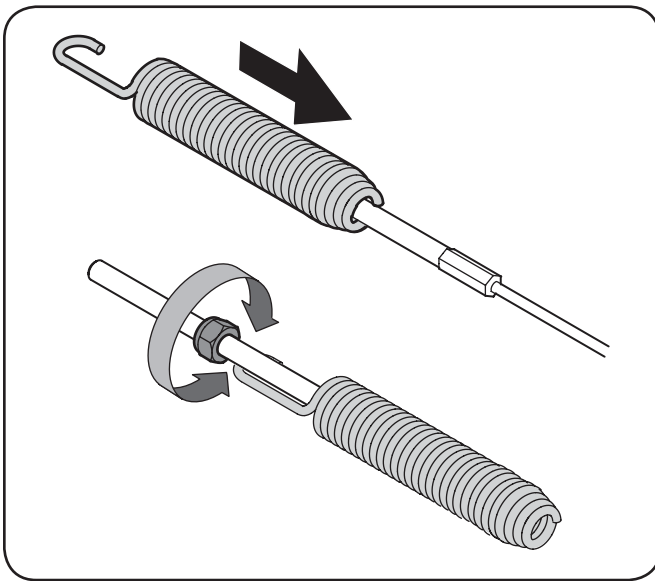

Figure 3-15
2. Slide the spring up the cable to expose the cable coupler threads and lock nut. Refer to Figure 3-15.